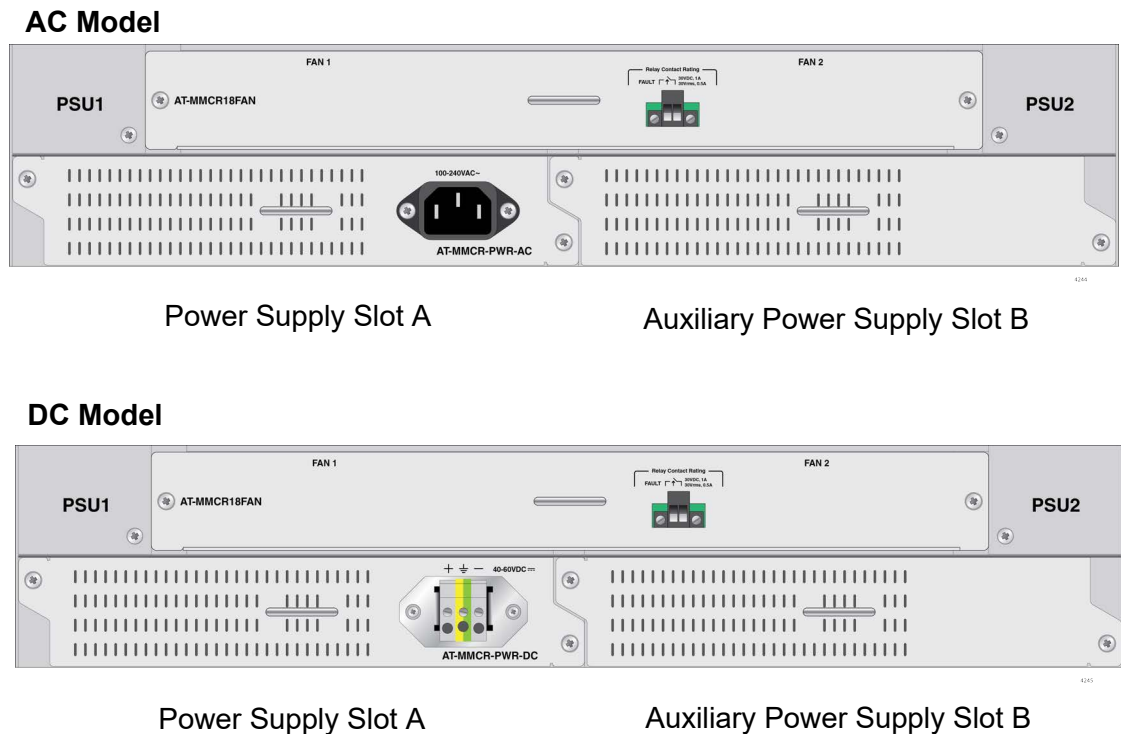

Figure 3. Back Panels
**Rear Panels** Figure 3 shows the back panels of the chassis with one AC or DC power supply unit installed. The chassis is not shipped with a power supply unit. You must install at least one AC or DC power supply unit.